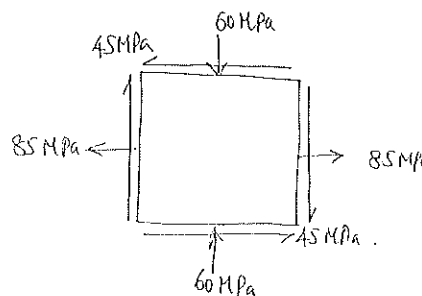

Fig.Q3(a)
- 3 a. For a state of stresses with $\sigma_x = 85 \text{ MPa}$ (Tensile), $\sigma_y = 60 \text{ MPa}$ (compressive) with a shear stress of 45 MPa , determine the principal stresses and locate principal planes. Also obtain maximum tangential stress and locate corresponding planes (Fig.Q3(a)). (10 Marks)